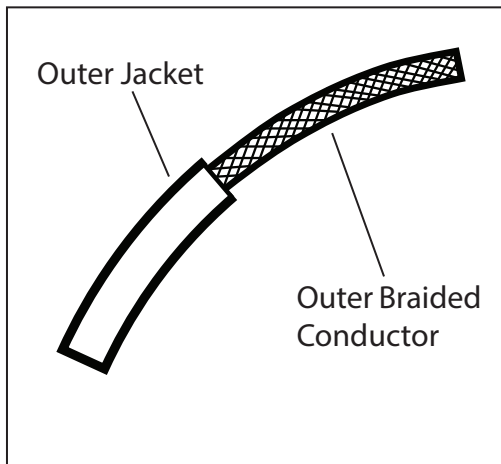

Fig. 1
1. Shut off power to the outlet box (A).
2. Use the screwdriver to loosen the slotted set screw (B). Adjust height of cord. Tighten the set screw to set. Reserve extra cord in the canopy (C).
3. Attach the mounting plate (E) to the outlet box (A), secure with outlet box screw (F).
- a. Connect the LED driver's (D) live wire (black) to the live outlet box wire.
- b. Connect the LED driver's (D) neutral wire (white) to the neutral outlet box wire.
- c. Connect the canopy's ground wire (green or uncoated) to the ground outlet box wire. If no ground is present in outlet box, connect canopy's ground wire to the mounting plate (E) using the green screw (included).
5. Attach canopy (C) to the mounting plate (E), secure with screws (G).
6. Install the mounting brackets (H) to the ceiling with anchors (J) and screws (K), then screw the posts (L) onto the mounting brackets. Adjust the steel cables (M) to level the fixture (N). To shorten the cable, push the cable up; to lengthen, push in the plunger while pulling down on the cable, release the plunger to lock. Slide cord rings (P) as close to canopy (E) and fixture (N) as possible. (Figure 1)
7. Adjust hanging clips (Q) by loosening clip screw (R) with included Allen key as needed.
8. Attach glass (S) to fixture (N). Secure with set screw (T).
9. Restore power to the outlet box (A).
(Figure 1)
1. Make a 1" slice along the length of the cord's outer jacket (Fig. 1). **CAUTION: Do not cut through the outer braided conductor.**
2. Carefully strip the outer jacket of the cord and keep the outer braided conductors intact (Fig. 1).